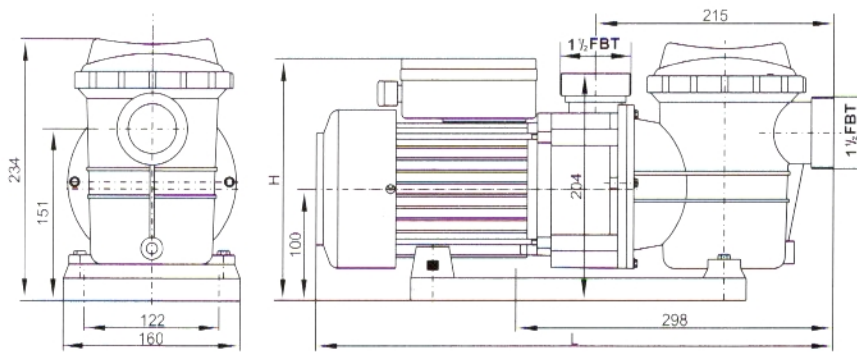

Fig.2
- Pumps must be level installment, Dimensions and position of the pump for supporting and fixing the pump within this space (Fig. 2).